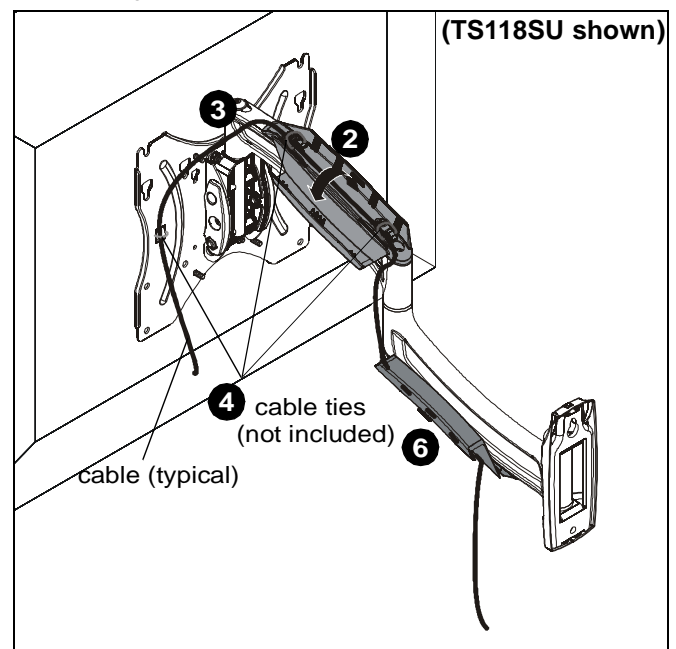

Figure 12
3. Route cables on top of upper arm. (See Figure 12)
4. (Optional) Use cable ties (not included) to secure cables to upper arms by threading ties around cable and through cable tie holes inside the covers. (See Figure 12)
5. Close upper cable management cover. (See Figure 12)
6. (TS118SU only) Route cables under lower portion of swing arm. (See Figure 12)
7. (Optional for TS118SU only) Use cable ties (not included) to secure cables to lower arms by threading ties around cable and through cable tie holes inside the covers. (See Figure 12)
8. (TS118SU only) Close lower cable management cover. (See Figure 12)